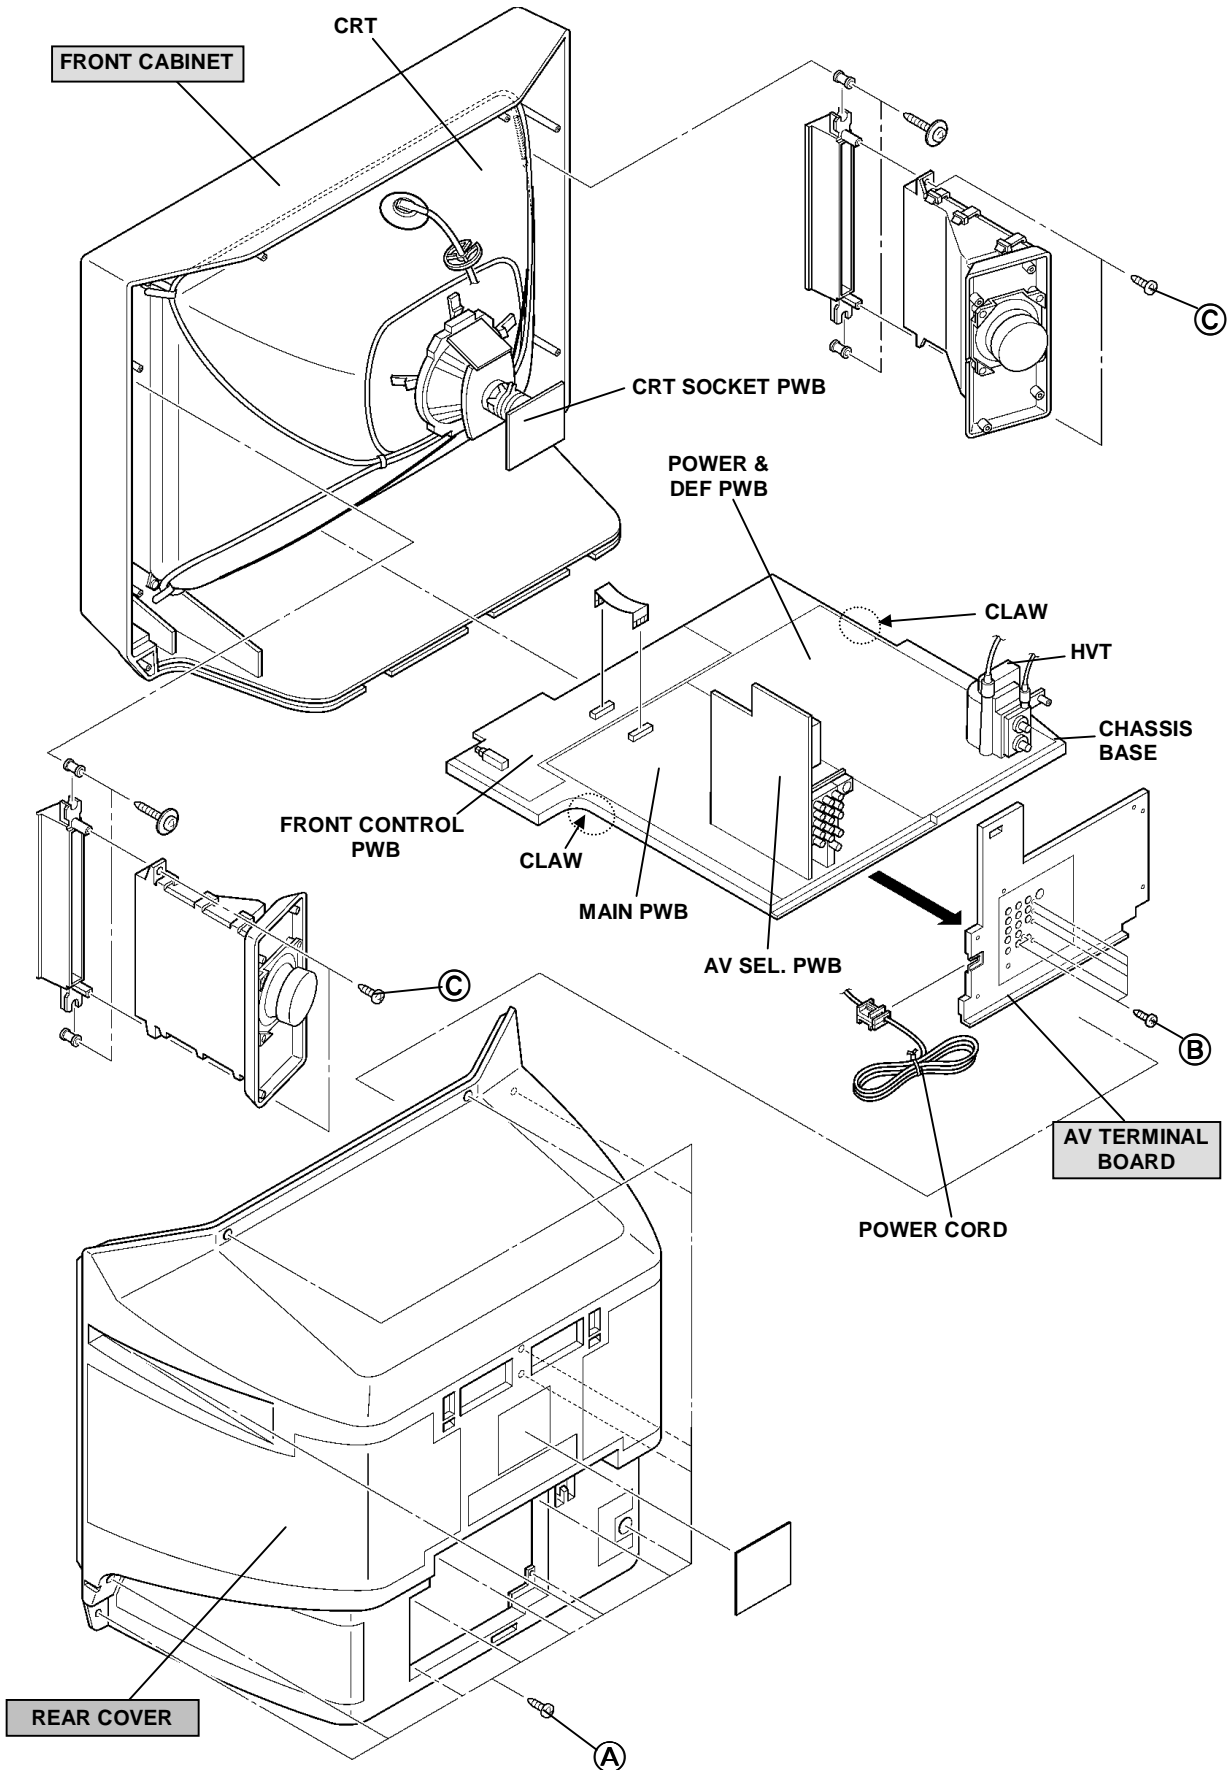

Fig.2
1. As shown in Fig.2, remove the **5** screws marked **(B)** .
1. As shown in Fig. 2, removing the **2** screws marked **(C)** , then remove the speaker box.